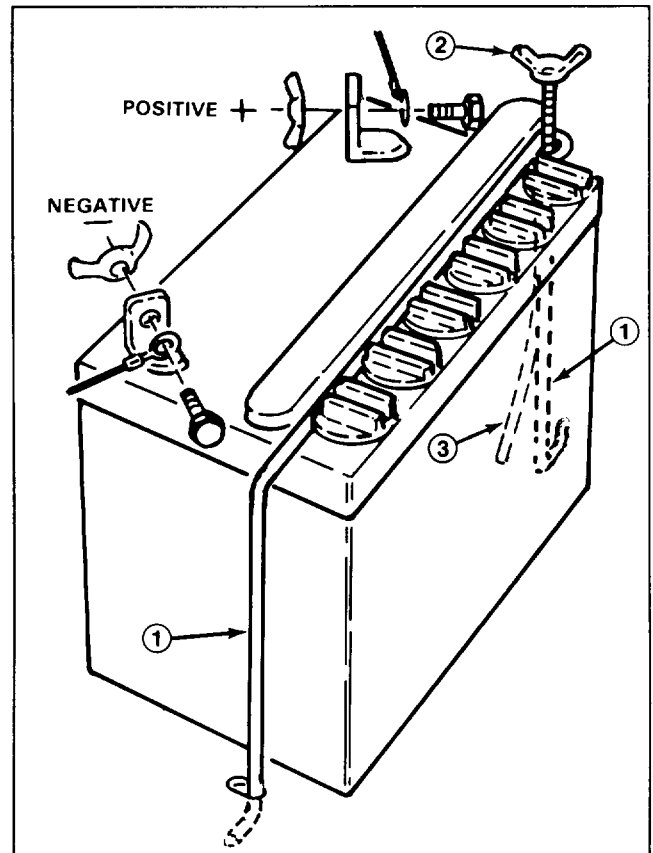

Figure 3
2. Remove wing nut securing battery hold downs to rider chassis (Fig. 3).
8. Reinstall the battery with terminal posts toward the rear of the machine and vent tube thru hole in frame (Fig. 3).
10. Reinstall the positive cable to the positive (+) terminal and the negative cable (black) to the negative (-) terminal of the battery and secure with capscrews and wing nuts (Fig. 3).